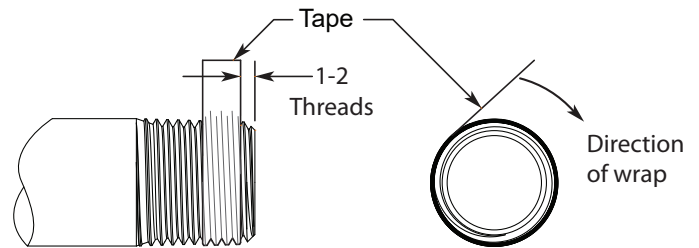

FIGURE 1
1. Prior to installation, turn hand wheel (028) of each valve clockwise to closed position.
2. Install upper valve (the one with a deep glass insertion hole) and the lower valve to vessel using Teflon® tape or equivalent thread sealing compound as shown in **Figure 1**.